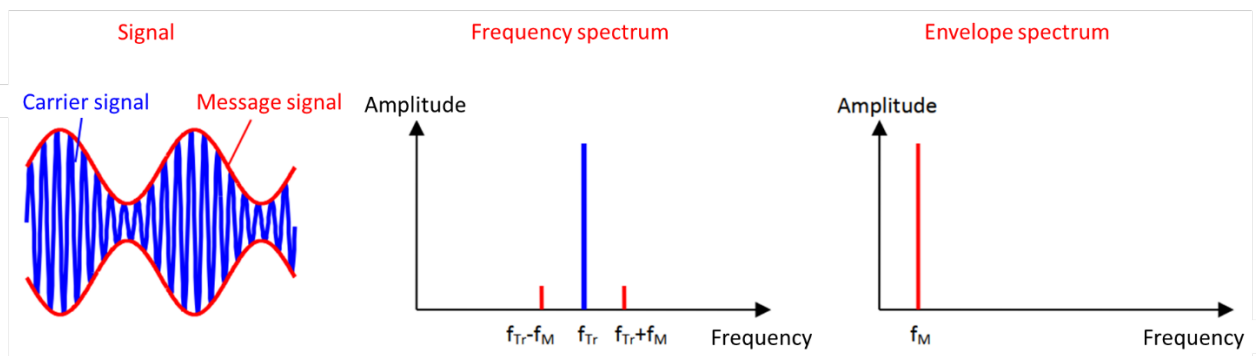

Figure 6 Comparison between frequency and envelope spectrum
- Usually bearing damages occur as shock shaped impulses. These impulses are shown as peaks, which resonate for a while because of the machine resonance. An by the damage frequency amplitude modulated signal will be detect. Aim of the envelope formation is to demodulate the signal so that just the damage frequency remains. It is a typical approach in the communication technology. A high frequency carrier signal is modulated with the message signal (Figure 6 left) to ensure an efficient transmitting. At the receiver the message signal will be separated from the modulated signal by use of the envelope formation. The envelope spectrum has the advantage compared to the power density spectrum with the original signal in time domain the visualisation of the relevant frequencies. The power density spectrum will show mainly the carrier frequency f_{Tr} . The modulation frequency f_m just occur as Sidebands (figure 6, middle). By use of envelope spectrum the modulation frequency will be shown, while the unimportant carrier frequency is for example just a machine resonance.